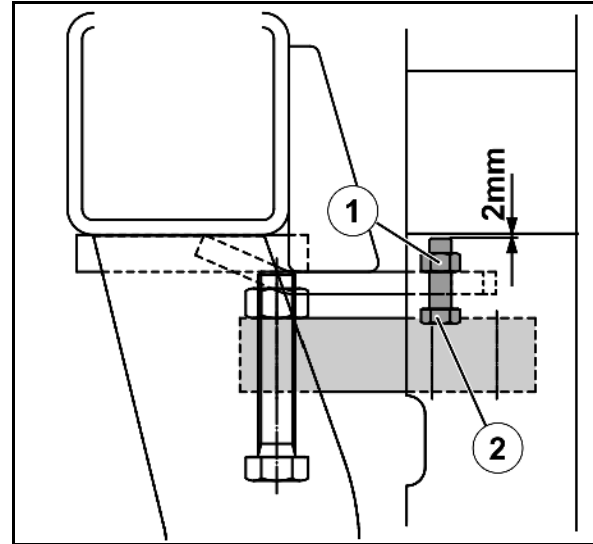

Fig. 86
The check screws (Fig. 86/2) must be set with 2 mm clearance as shown.
1. Release the lock nut (Fig. 86/1)
2. Adjust the check screws (Fig. 86/2)
3. Tighten the lock nut (Fig. 86/1)